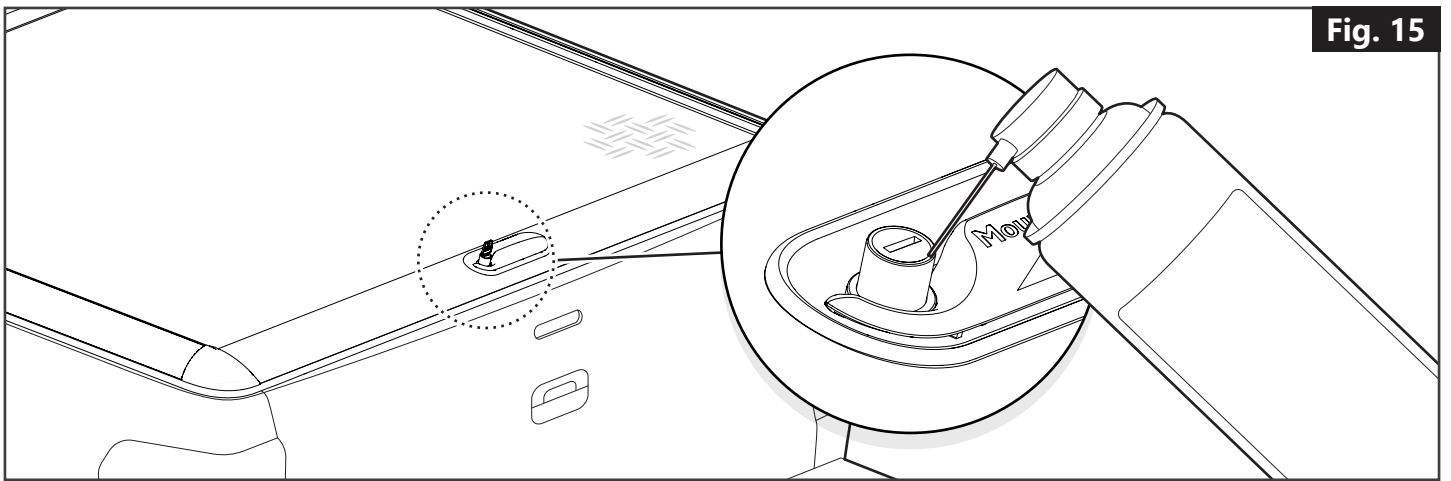

Fig. 15
- The lock should be lubricated regularly using a suitable lock lubricant (e.g. Würth lock spray), or similar. **(Fig. 15)**